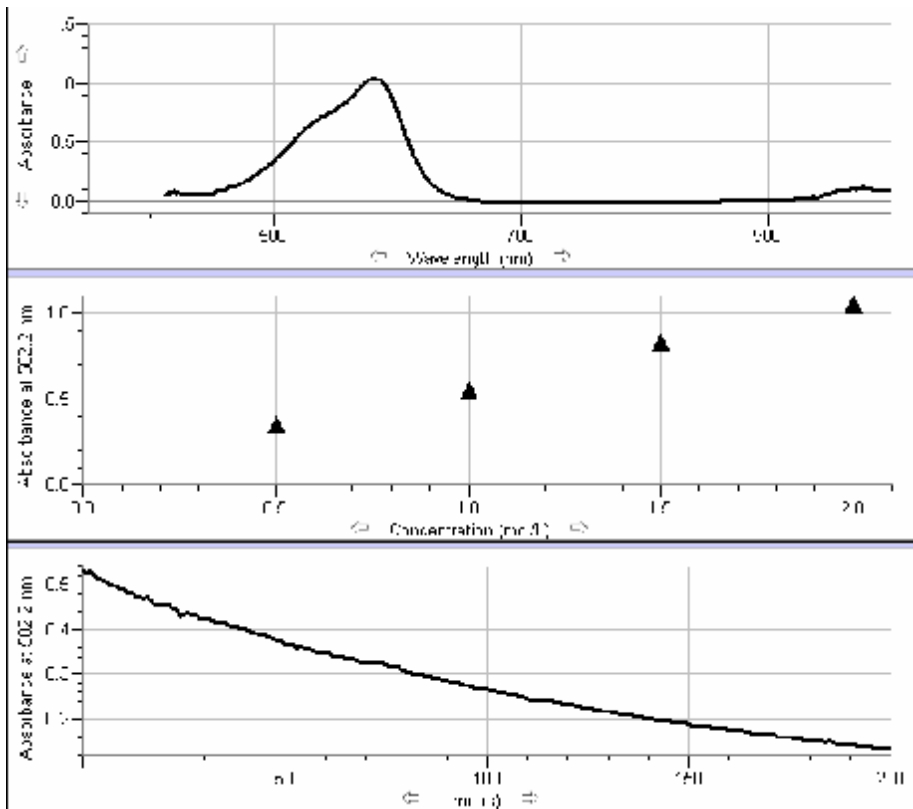

Figure 5
5. Analyze the graph. Note the gradually decreasing absorbance as the reaction proceeds (see Figure 5).